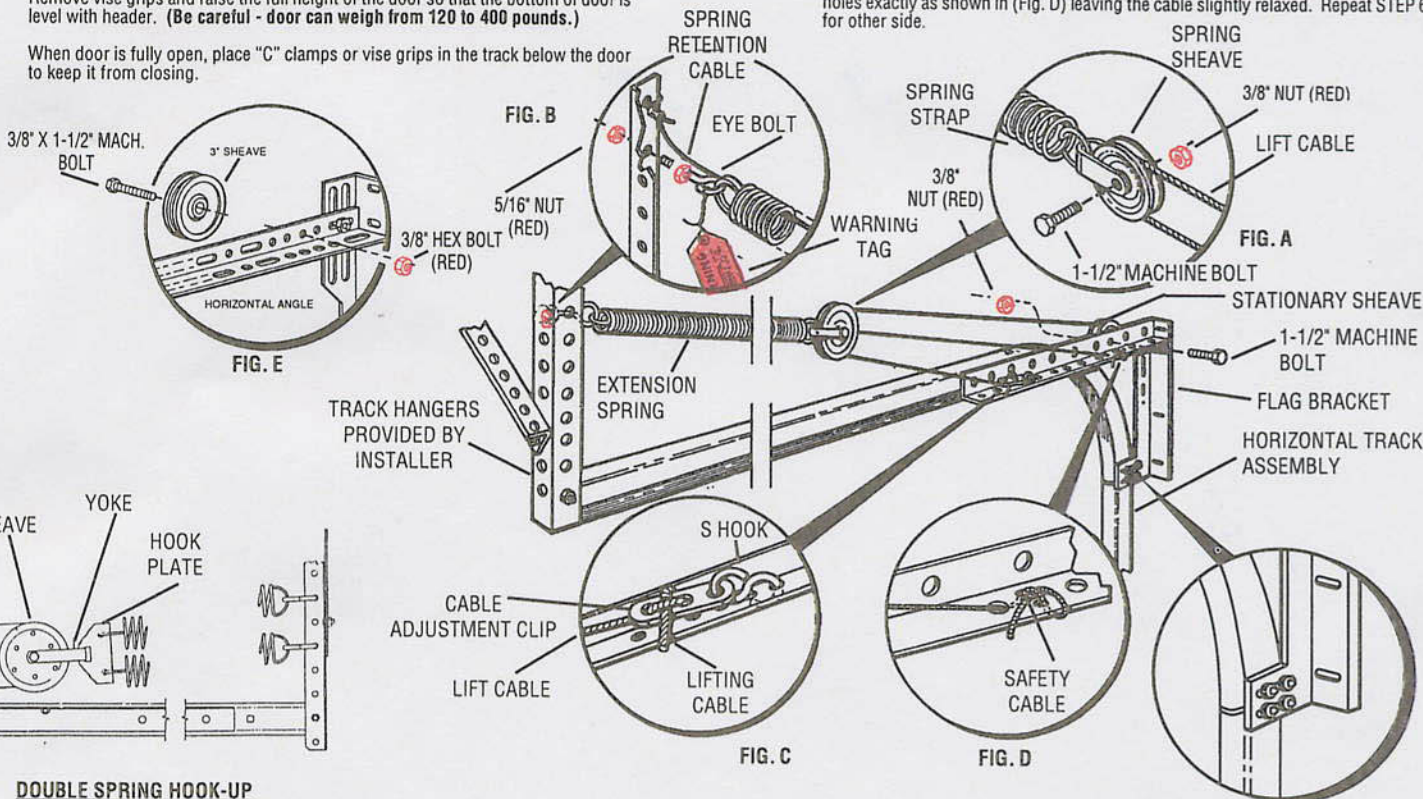

FIGURE 1
STEP 1: Assemble all parts to torsion spring shaft as shown in (Fig. 1 & 3).
STEP 5: Bring cable up between wall and rollers and over the top of drum and insert cable end into drum slot (Fig. 1).
Slide drum against end bearing plate and make sure the slot is facing installer. Draw cables tight and tighten set screws on drum to lock into shaft. Recommended torque on set screws is 200 in-lbs. (16.7 ft-lbs.) to 240 in-lbs. (20 ft-lbs.). Be careful not to overtighten screws & puncture the tubing (Figs. 1, 2 & 3). After contact with the tubular shaft, turn screw an additional 1/2 to 1 full turn (approx. 18 ft-lbs.).
STEP 6: Repeat Step 5 to other side and draw a straight chalk line across each spring(s) (Fig. 1).
STEP 7: When spring assembly, cable and drums have been set in place, fasten vise grip to shaft and reset handle against wall to hold assembly in place and to maintain cable tension until winding is complete (Fig. 1).
STEP 9: Wind each spring(s) in an upward direction 1/4 turn at time (Fig. 1) to the approximate number of turns according to Table 2.
STEP 5: There are 2 pairs of cables with extension spring doors. The lifting cable is longer than the spring retention cable. The looped end of the lift cable should be attached to the bottom bracket of the door. Thread the other end of the lifting cable over the stationary sheave and then through the spring sheave (Fig 1 & A). Then tie the cable to the cable adjustment clip, then attach this clip to the horizontal angle with a S-hook exactly as shown in (Fig. C). The cable should be taut and spring slightly stretched to hold the door in the open position. Repeat STEP 5 for the other side. **Maintain equal tension on both springs.** Check for a spring warning tag on each spring.